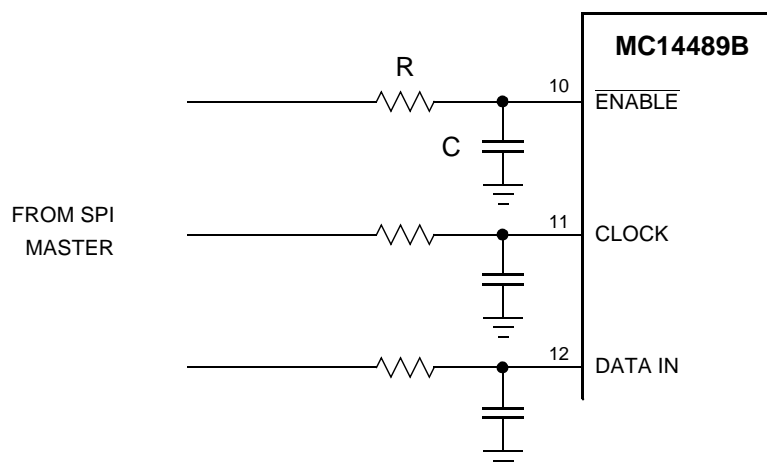

Figure 1. SPI Bus Termination and Decoupling
- Terminate SPI lines at the device using termination resistors and decouple with capacitors, as shown in Figure 1.